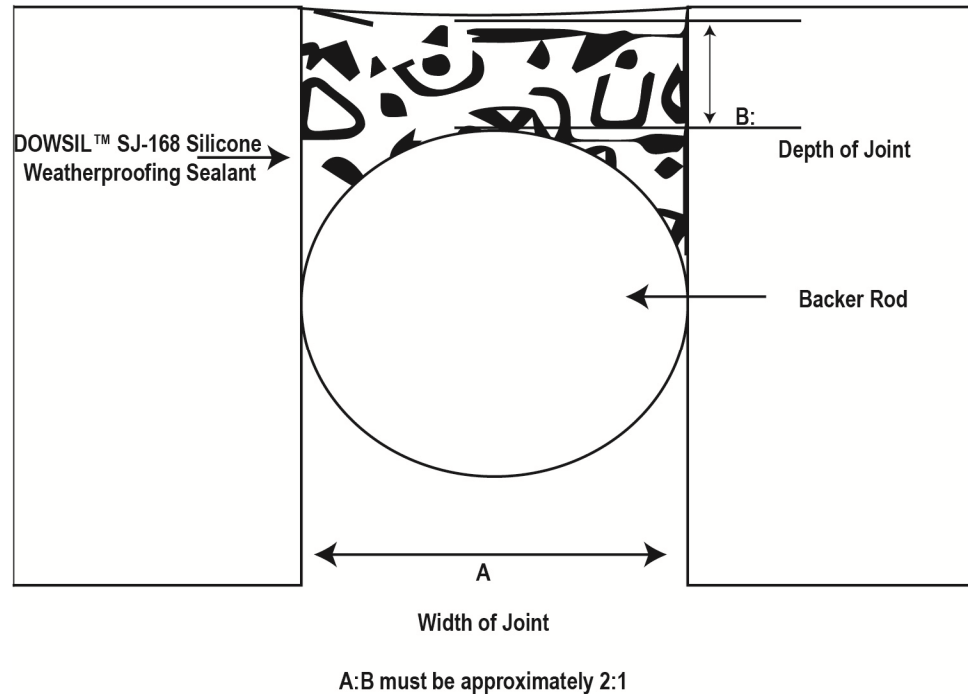

Figure 1: Recommended joint design.
3. For larger joints, the width of the joint shall be larger than the depth of sealant. (See Figure 1, and refer to guidelines 1 and 2 above.)
4. To avoid 3-sided adhesion, backer rod or non-adhesion tape should be used at the bottom of the joint to ensure that the sealant is only adhering to the edge of the joint and to ensure flexible movement in the joint. (See Figure 1.)